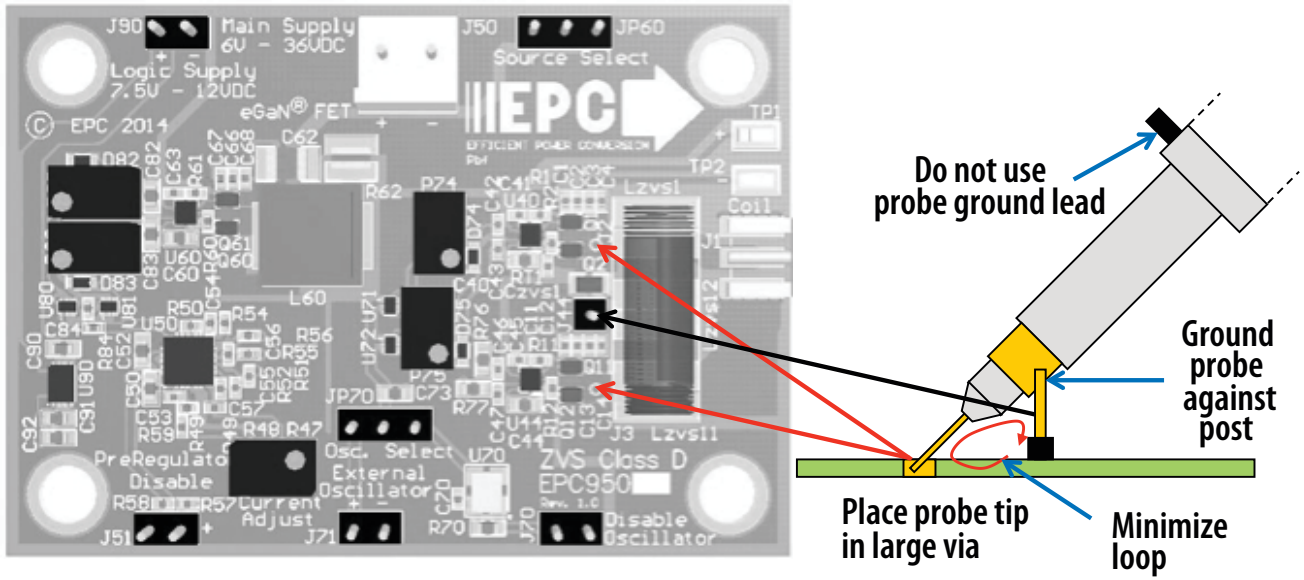

Figure 3: Proper Measurement of the Switch Nodes Using the Hole and Ground Post
**NOTE.** When measuring the high frequency content switch-node (Source Coil Voltage), care must be taken to avoid long ground leads. An oscilloscope probe connection (preferred method) has been built into the board to simplify the measurement of the Source Coil Voltage (J2 and J3 as shown in Figure 3).